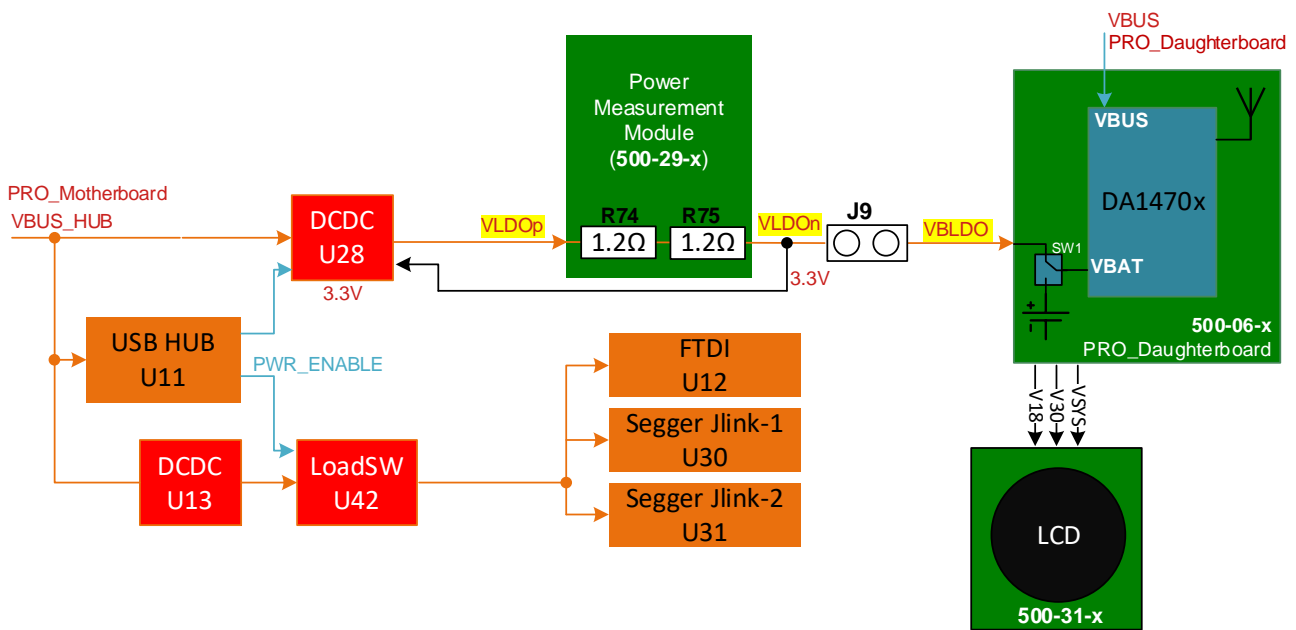

Figure 26: Power configuration applied on PRO-Motherboard
The power structure of the PRO-Motherboard (shown in Figure 26) contains two high efficient adjustable 1A DCDC step down converters the U28 (TPS62250DRVR) and the U13 (AP61100Z6-7) both fed from the USB connector 5V supply (VBUS_HUB). There is one DCDC allocated per supply domain meaning that there is a dedicated DCDC converter (U28) accompanied with a LDO (U5) for VLDOp voltage generation that passes through the current measurement circuitry and then eventually becoming the V_{BLDO} input supply on the daughterboard section. Please notice that on PRO-Daughterboard, the VBLDO is connected to the VBAT through switch SW1.
As it is appeared on Figure 26, the USB of PRO-Motherboard supplies all supporting circuits as well as the DCDC converter (U28) which supplies PRO-Daughterboard.
- 2.4 ohm in series to VLDO (located on DA1470x-sb-pmm2, see Figure 26)